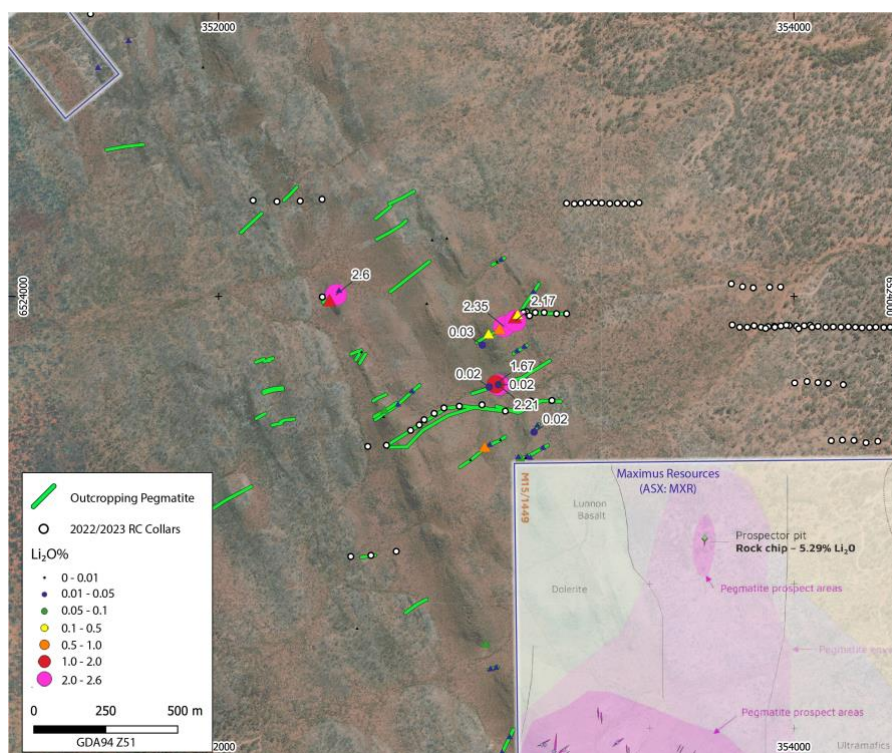

Figure 2: Rock chip sampling results from high-priority pegmatite targets.
Following completion of aerial magnetic surveying (refer MQR ASX release dated 20 Nov 2023), Company geologists completed a site visit to determine drill rig access for the planned drilling programs. Mapping of pegmatites, using ultraviolet (UV) light, was completed during the early morning with visual spodumene identified at a number of high-priority drilling sites (Figure 1). Rock chip samples of the outcropping, spodumene bearing pegmatites returned significant assay results up to **2.6%  $\text{Li}_2\text{O}$**  (23SW0039) (Table 1 & Figure 2).